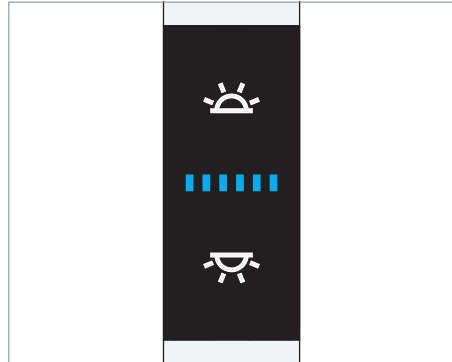

Fig. 20: Multifunction pushbutton operating element.
- ▶ Press the upper switch, see Fig. 20
- ▶ Press the lower switch, see Fig. 20.
- ▶ Press the upper switch and keep it depressed, see Fig. 20.
- ▶ Press the lower switch and keep it depressed, see Fig. 20.